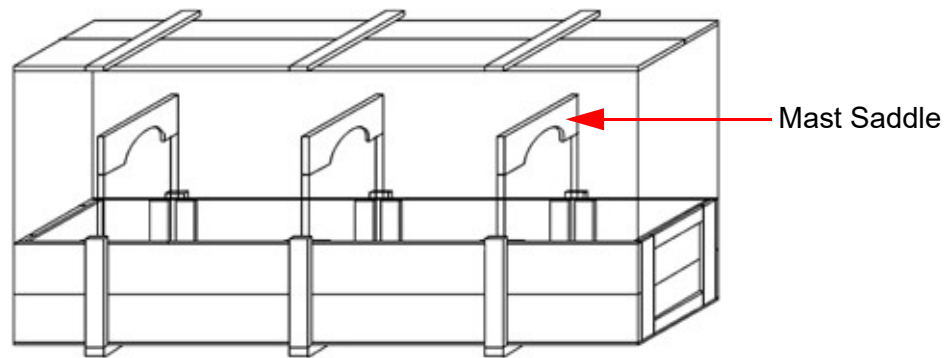

Figure 5-5 Shipping Crate
4. Remove the top half of the wooden saddles that secure the mast in place (Figure 5-5).